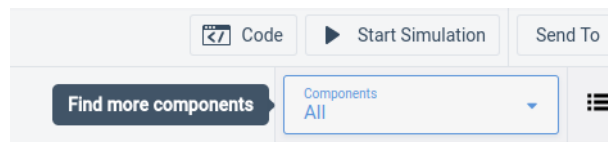

Figure 13.2: Component Selection
5. Then from right side change component selection to all as shown in Figure 13.2.